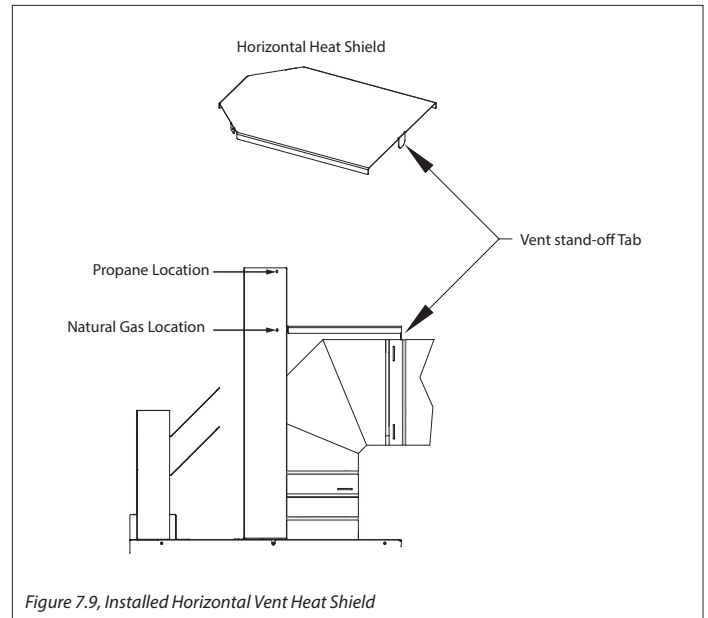

Figure 7.9, Installed Horizontal Vent Heat Shield
1. Bend perforation on the (3) hand-tabs down on the horizontal vent heat shield.
2. Locate (3) screw holes on the vertical vent heat shield. There are (2) sets of screws holes, allowing for either natural gas or propane minimum horizontal venting. See Figure 7.9
3. Align the (3) slots on horizontal vent heat shield tabs to the corresponding (3) screws holes on the vertical vent heat shield necessary for your installation.